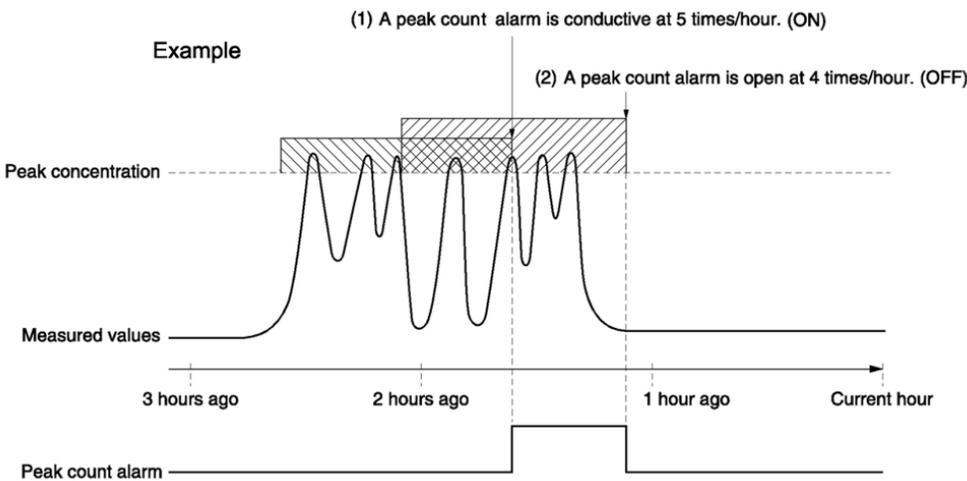

Figure 3-9: Peak Alarm Example
Figure 3-9 depicts the behavior of the Peak alarm where the alarm count has been set to 5. At the point labeled (1), the peak count alarm is turned ON since the alarm count has reached the threshold of 5 per hour. Since peaks of more than 5 times within an hour occur between the